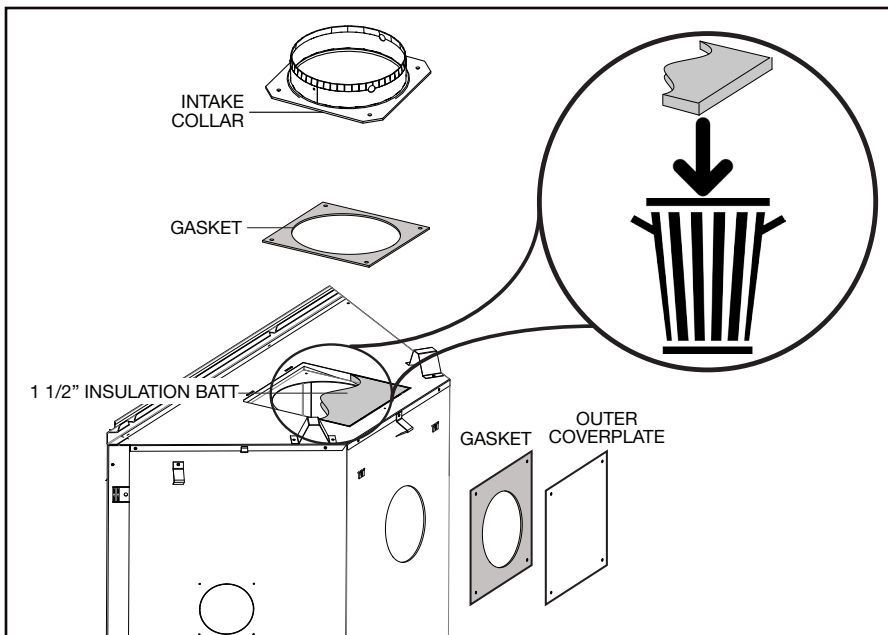

Fig. 2
- D. Remove the 1 1/2" (38.1mm) thick batt of insulation and **discard** (**Fig. 2**).
- E. Place the 7" (177.8mm) intake collar and gasket onto the top of the appliance and secure using 4 screws (**Fig. 2**).